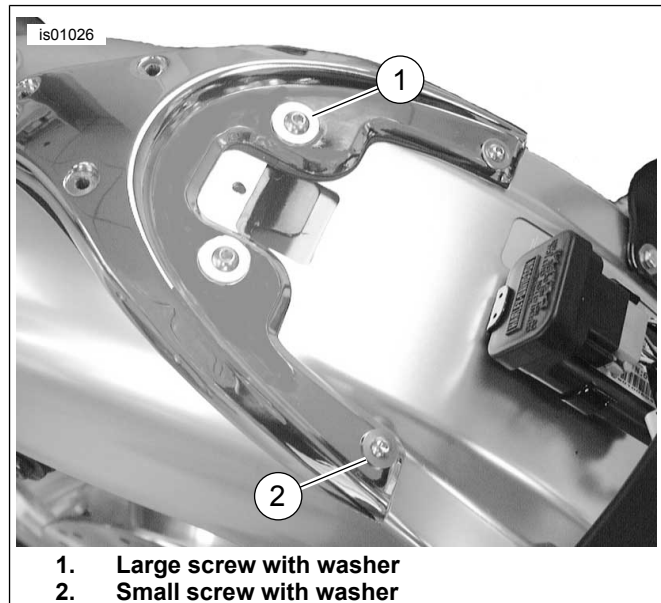

Figure 5. Install Baseplate Mounting Hardware
14. See Figure 5. Carefully align the baseplate (with gasket) over the screw holes in the top of the fender.